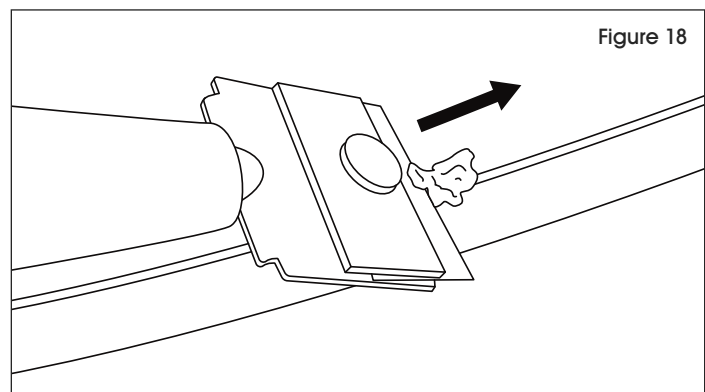

Figure 18
3. Once filler has dried, use a razor blade to scrape excess from laminate surface. (See Figure 18)